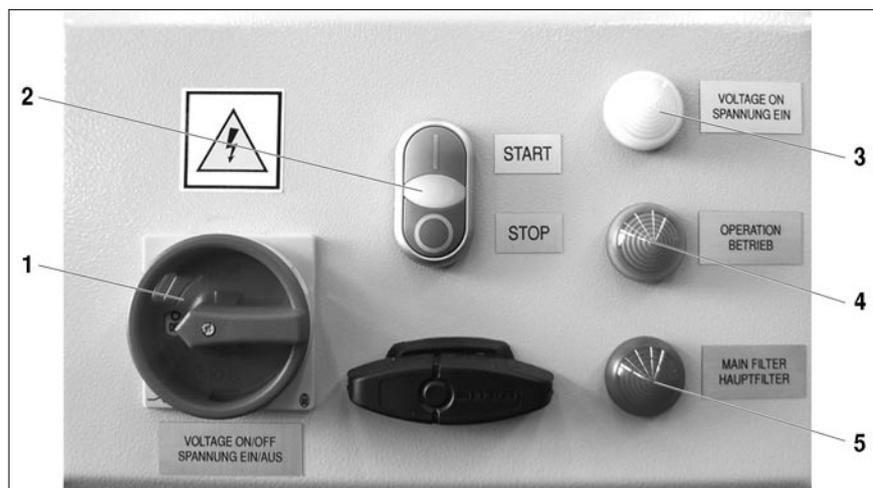

Fig. 3: Control box
- ▶ Observe the vacuum meter. If the pressure exceeds 2.5 bar, the machine is switched off automatically and a fault is displayed at the control box (fig. 3, item 5). The filter cartridge has to be exchanged (chapter "9.5 Exchanging the filter cartridge").